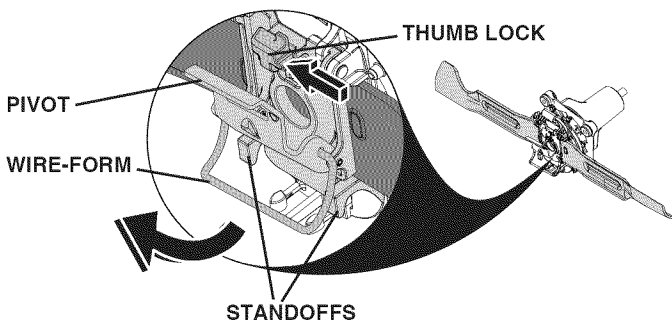

Fig. 16
- Slide thumb lock and release pivot to allow wire-form to swing free from standoffs. (See Fig. 16.)